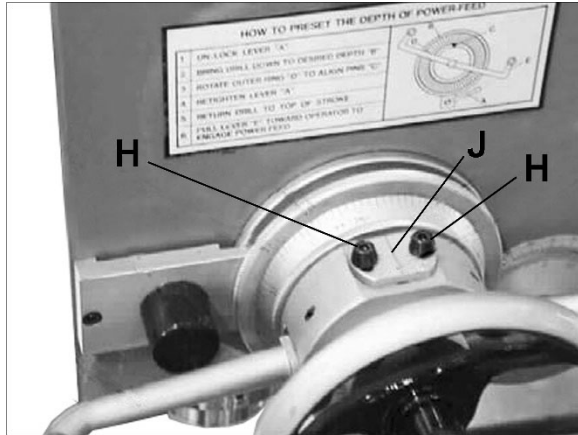

Figure 9-4
If backlash occurs when attempting to engage clutch with feed levers, loosen screws (H, Figure 9-4) and push adjusting block (J) forward. Retighten screws (H).